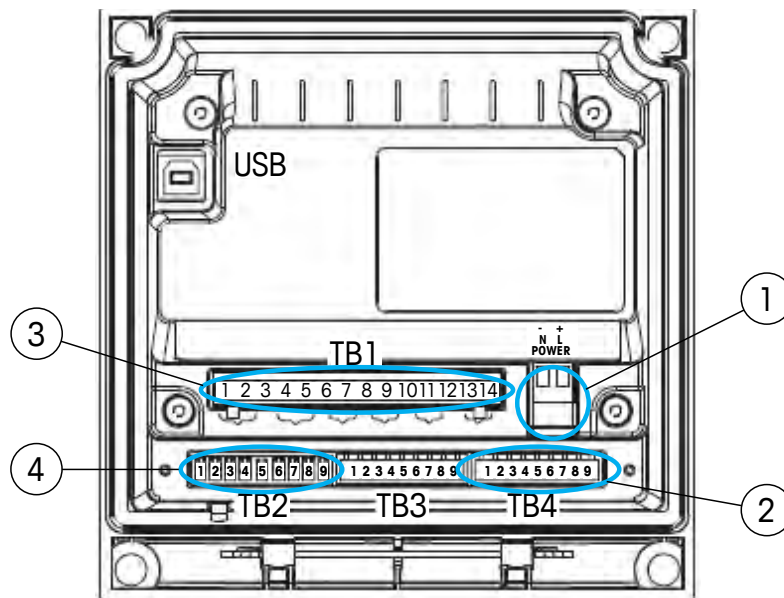

Figure 41 Cable connections in M400
- 2 Connect the wires in the supply cable to the appropriate electrical supply terminals in the M400 as follows and as shown in Figure 41 (Cable connections in M400) on page no 78.